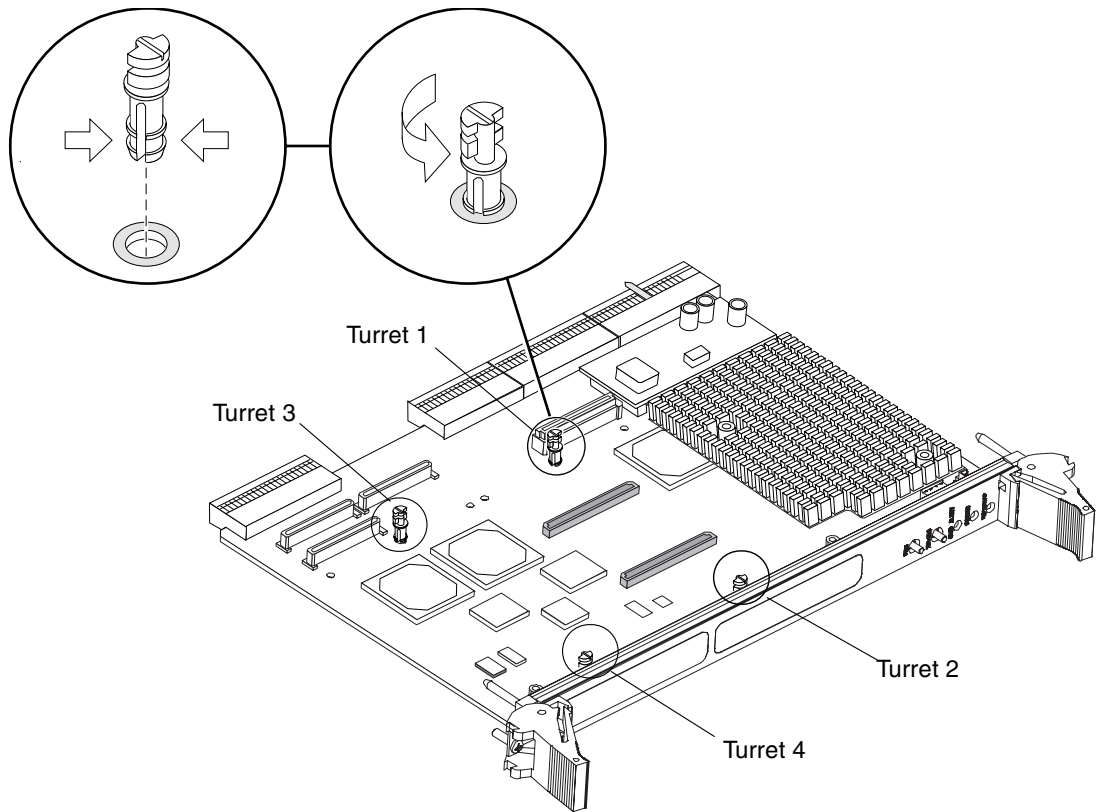

FIGURE 6 Installation of a Turret on a Typical Netra CP2000/CP2100 Board for Double-wide Memory Module Installation
- To install a turret onto the board, pinch the turret at the bottom and insert it into the turret mounting hole on the Netra CP2000/CP2100 board as shown in FIGURE 6.